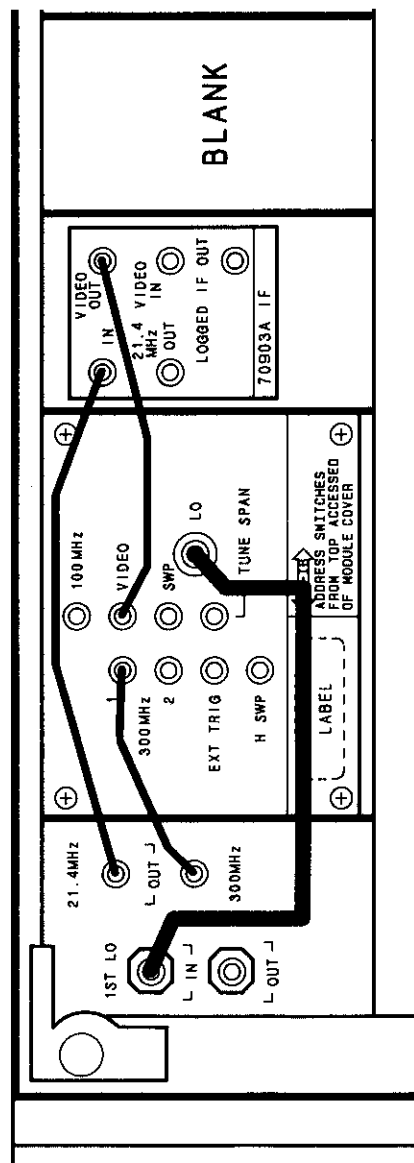

Figure 9. RF with One IF Module
1. Turn instrument OFF (0).
5. Connect inter-module cabling (see Figures 9—12).
The rear-panel cable connections for the RF SECTION, HP 70904, are shown with one IF module in Figure 9.